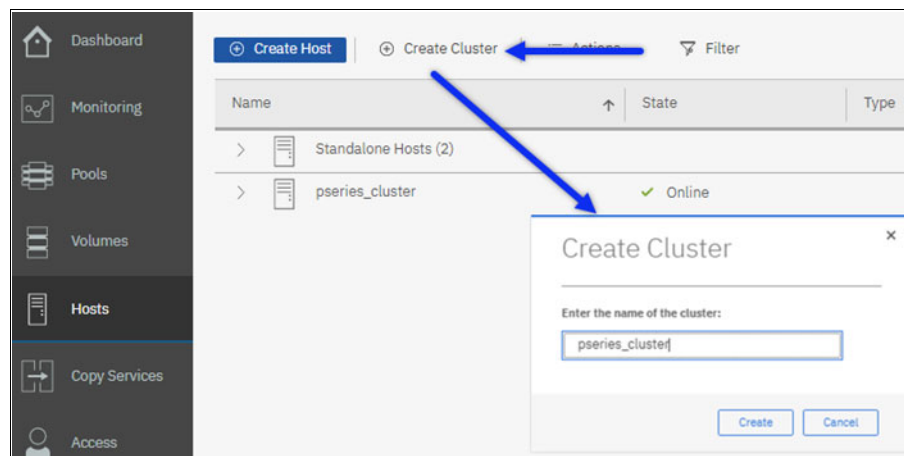

Figure 9-55 Hosts View: Create Cluster window
3. The Hosts window opens, as shown in Figure 9-55. Click **Create Cluster**.
4. The Create Cluster window opens, as shown in Figure 9-55. Specify the name of the cluster, and click **Create**.